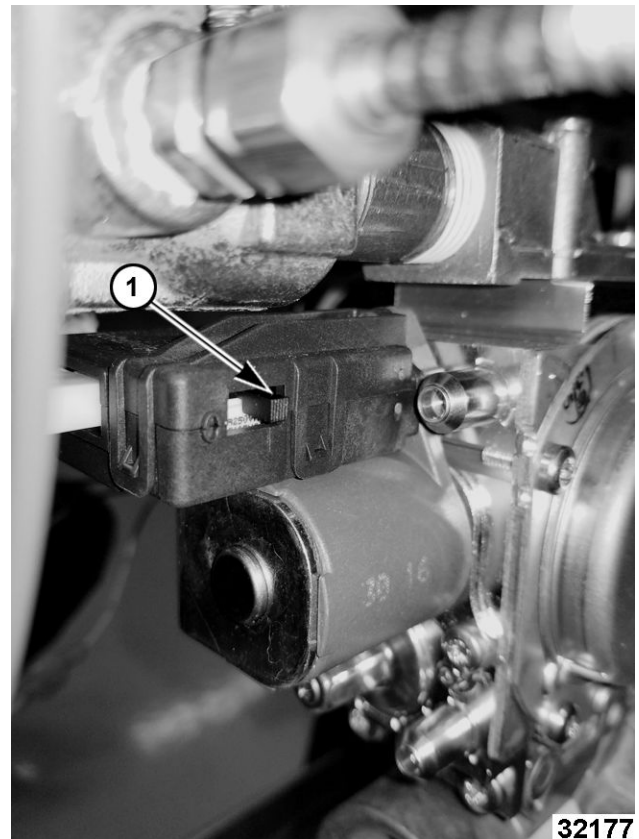

**Fig. 46**
- A. Loosen screw with flat head screwdriver (1, Fig. 46) to open pressure tap.